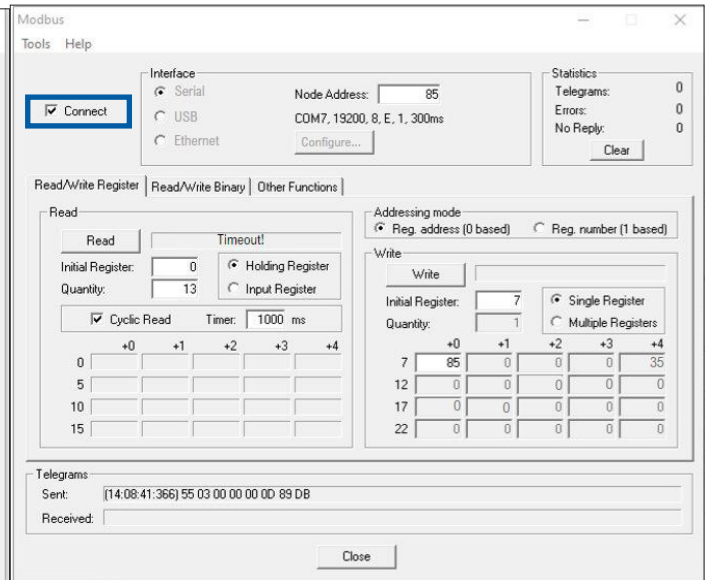
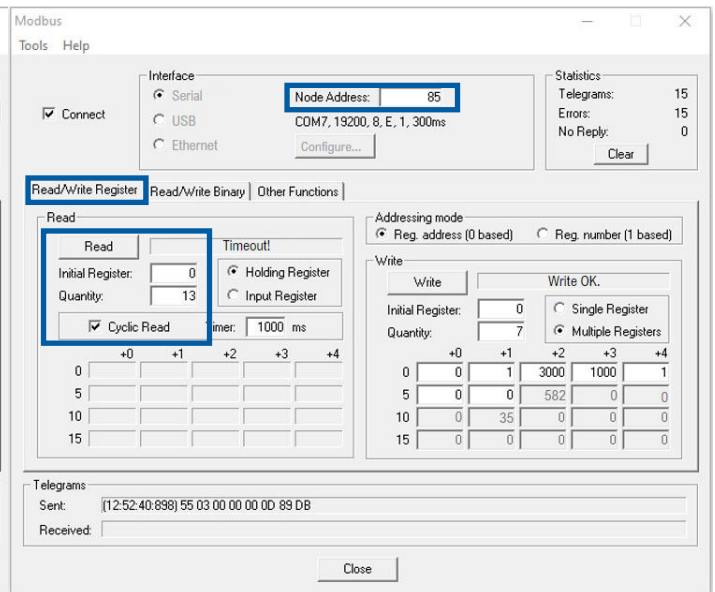

Figure 15 - Modbus connecting
Figure 17 - Modbus communication fail
- Step 4: After the above operations are completed, please select “connect” (refer to Figure 15).
- Step 2: Select “Read/Write register”, input register the initial address and quantity, and click read. Check whether the read function can be executed successfully. If communicating successes, it shows like Figure 15. If communicating fails, it shows like Figure 17, and it is required to get the right address of this ECM Motor (Refer to Step 3).